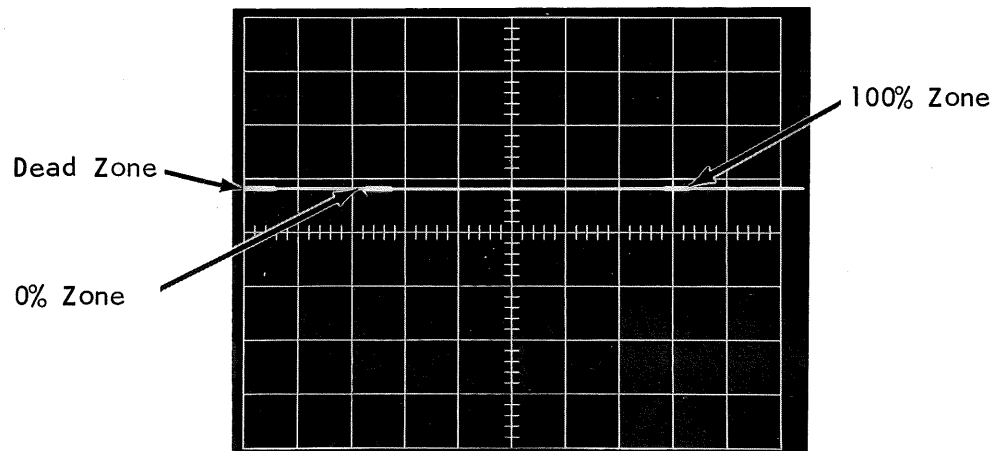

Figure 2-19
3. Set the B 0% and 100% ZONE POSITION controls so both the 0% and 100% zones are out of the dead zone and visible on the CRT. See Figure 2-19.